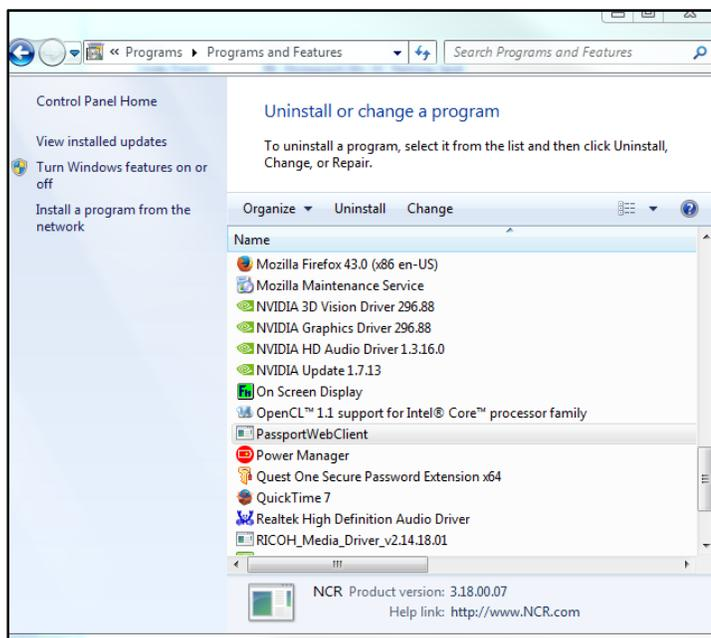

Figure 12: Locating the Scanner Driver
1. Go to **Control Panel > Programs > Program and Features** and locate **PassportWebClient** in the list of programs. See Figure 12.